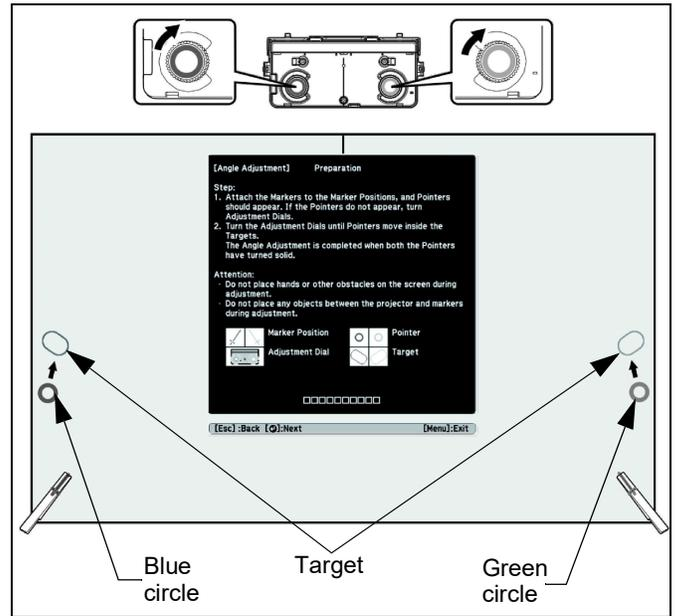

Figure 41
- When circles with the same color (blue or green) as the marker positions are displayed on the left and right of the screen, turn the adjustment dials on the touch sensor to move the blue and green circles inside the target of the same color (blue and green) on either side of the screen. (See Figure 41).
NOTE: Turning an adjustment dial **clockwise** moves the circle diagonally **up** towards the center of the projected image. (See Figure 41)